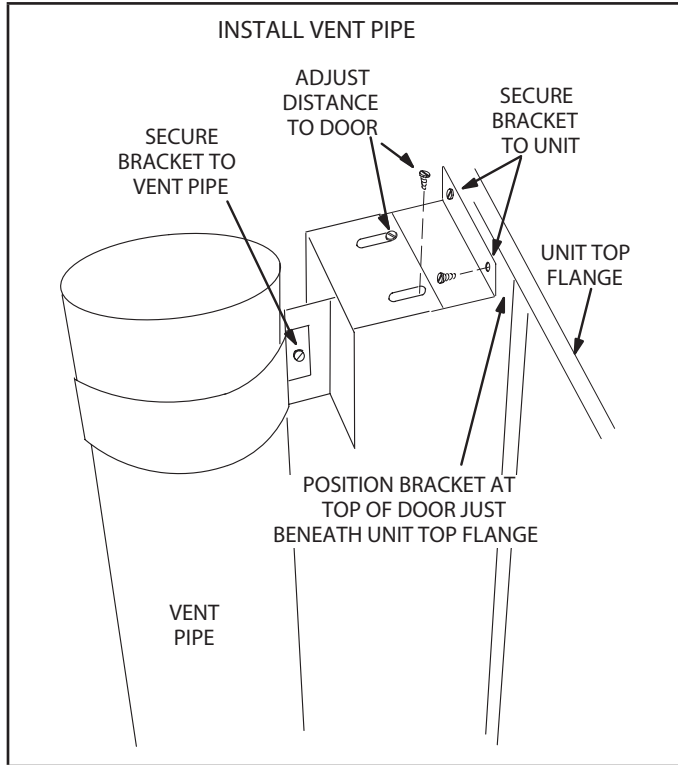

FIGURE 9
- 10 - Slide bracket assembly over the top of installed vent pipe. Secure as shown in figure 9. Make sure bracket is as high on the door as possible but beneath unit top flange.